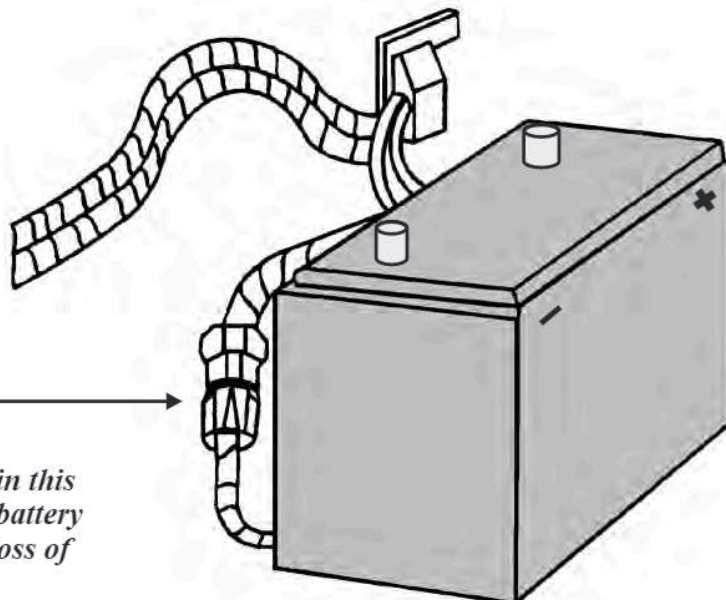

Figure 54
- Corrosion at connector G101, ("G" VANS ONLY). (Refer to Figure 54).
- Corrosion at connector C101, ("G" Vans ONLY), (Refer to Figure 54).